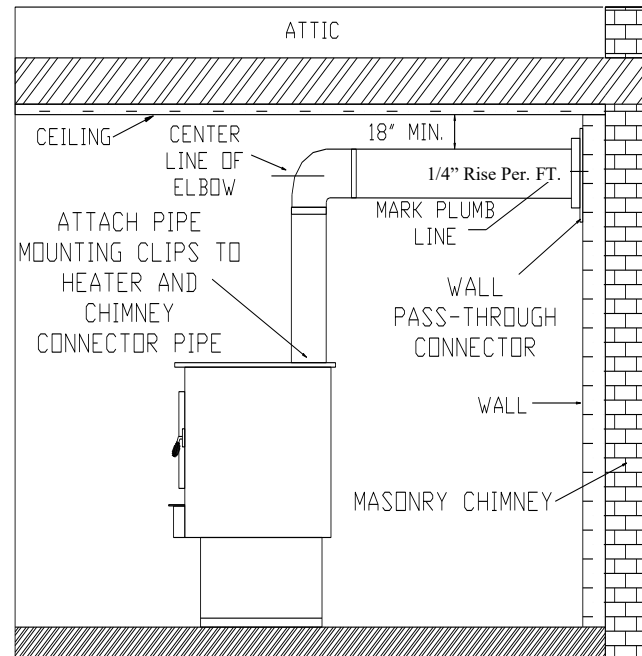

FIGURE 15
1. Before connecting Carolina 92 to a masonry chimney, determine if masonry fire-place wall pass-through connector thimble meets **NFPA-211** Code and local building codes and is a minimum of 18" from ceiling. See Figure 15. If connector thimble does not meet these codes, the pass-through connector must be modified.